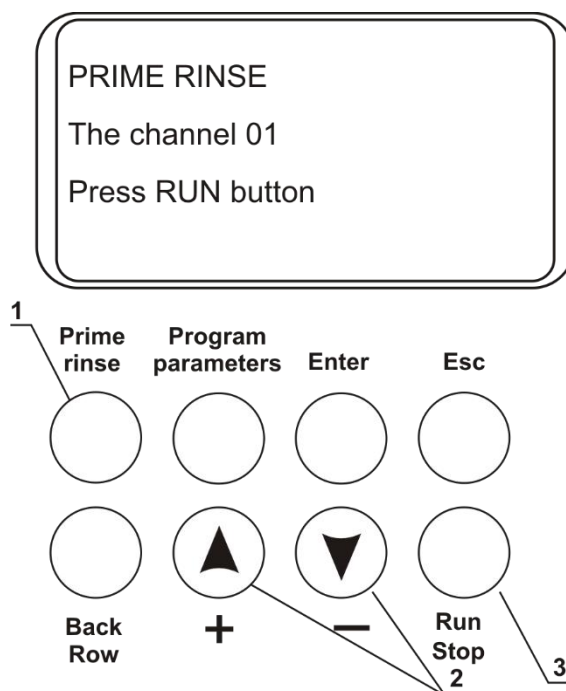

Fig. 11. System rinse
- 5.2. Press **Prime rinse** (fig. 11/1), display shows “PRIME RINSE, the channel 01”. Select the correct channel with using **+** and **-** (fig. 11/2). Press **Run/Stop** (fig. 11/3) key and the system will perform rinsing cycle. Repeat the procedure twice, if necessary.